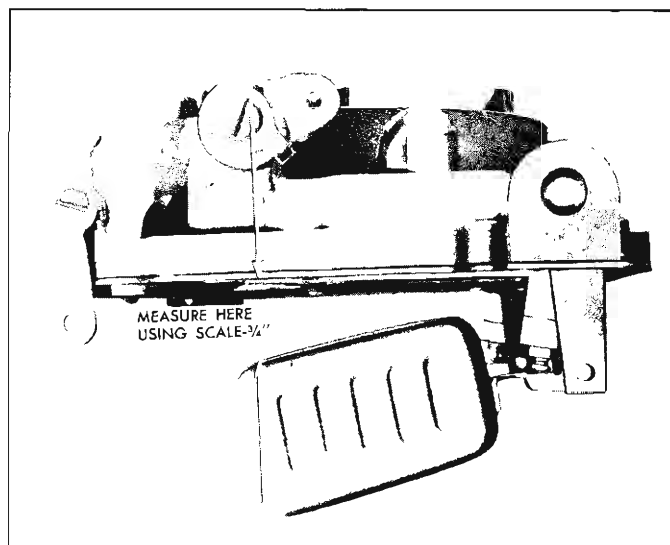

Fig. 17—Adjusting Float Drop
7. Adjust Float Drop. With air horn held in upright position, measure vertical distance from air horn gasket to outer end of each float using a scale. Bend float arm tang as required to obtain  $3/4$ " measurement (fig. 17).